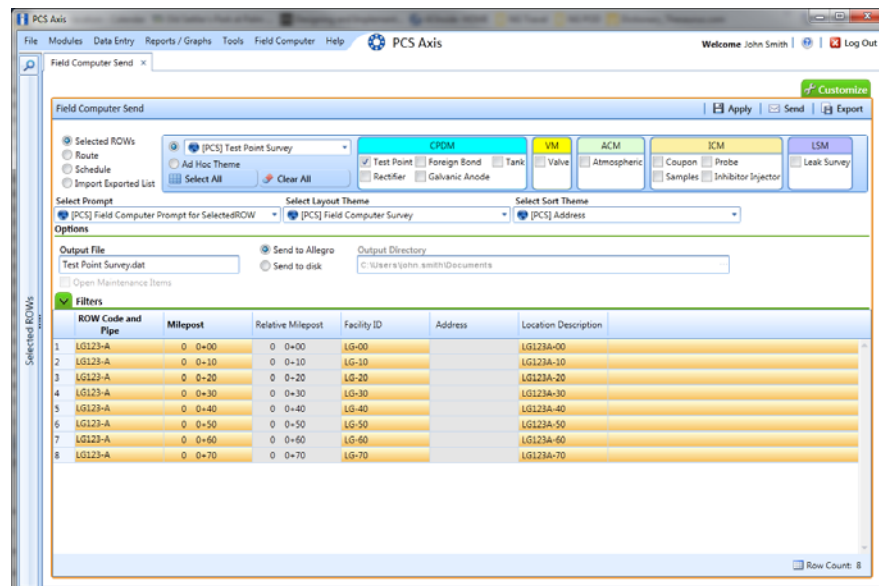

Figure 12-2. Select ROWs and Facility Type(s)
- 3 Click **Field Computer** > **Send** to open the *Field Computer Send* window (Figure 12-2, page 475).
- 6 Select a prompt, layout, and sorting theme as follows (Figure 12-2):